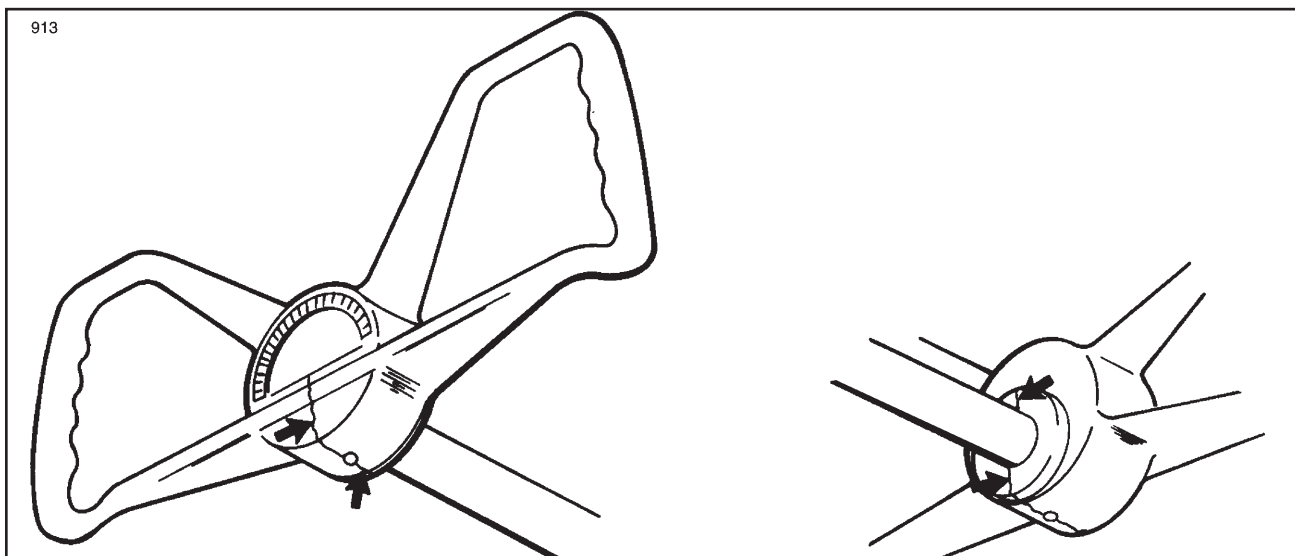

Figure 3-20
- (b) Check for any movement between the heater muff end plates and the muffler pipes in the directions shown on Figure 3-20. If there is no movement, the muffler assembly is acceptable.
Refer to Figure 3-20.
NOTE: Do not confuse any surface irregularities or mold marks with actual cracks. (Refer to Figure 3-20.)